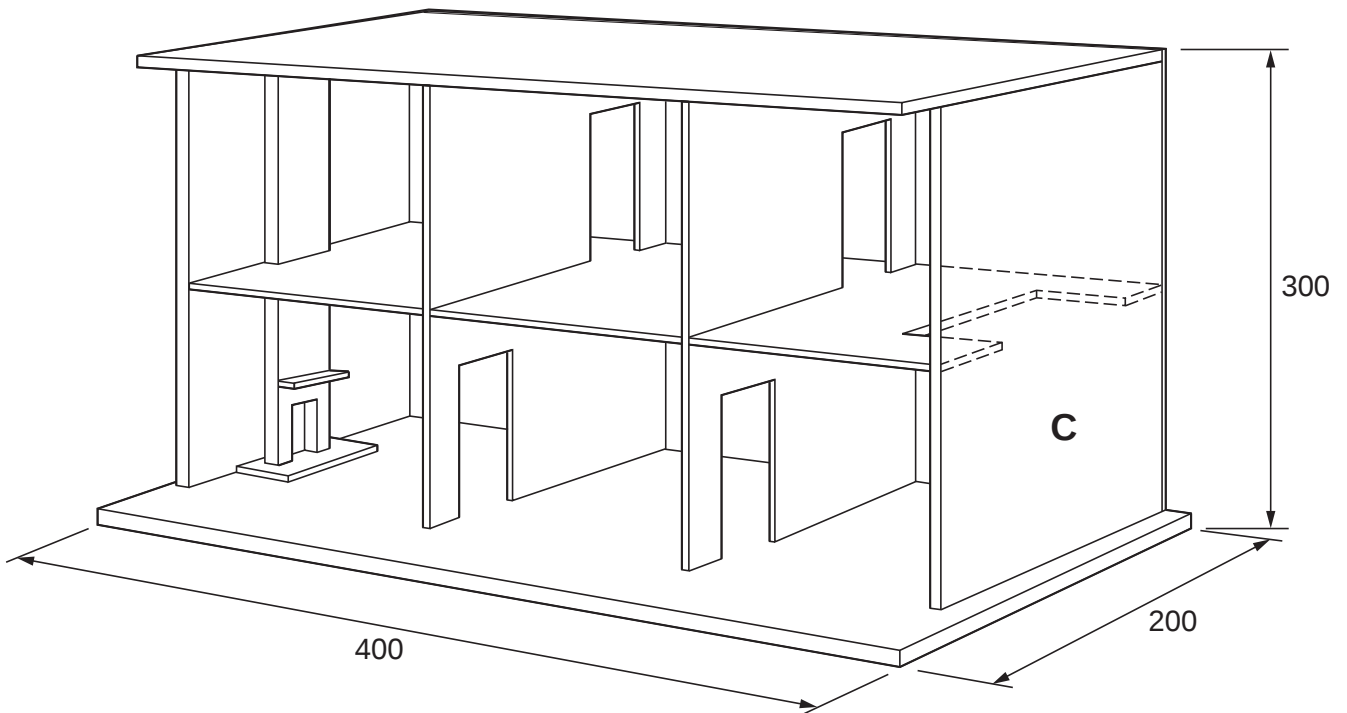

Fig. 9
- 8 Fig. 9 shows the main structure of an architectural model of a house. Most of the model is made from card.